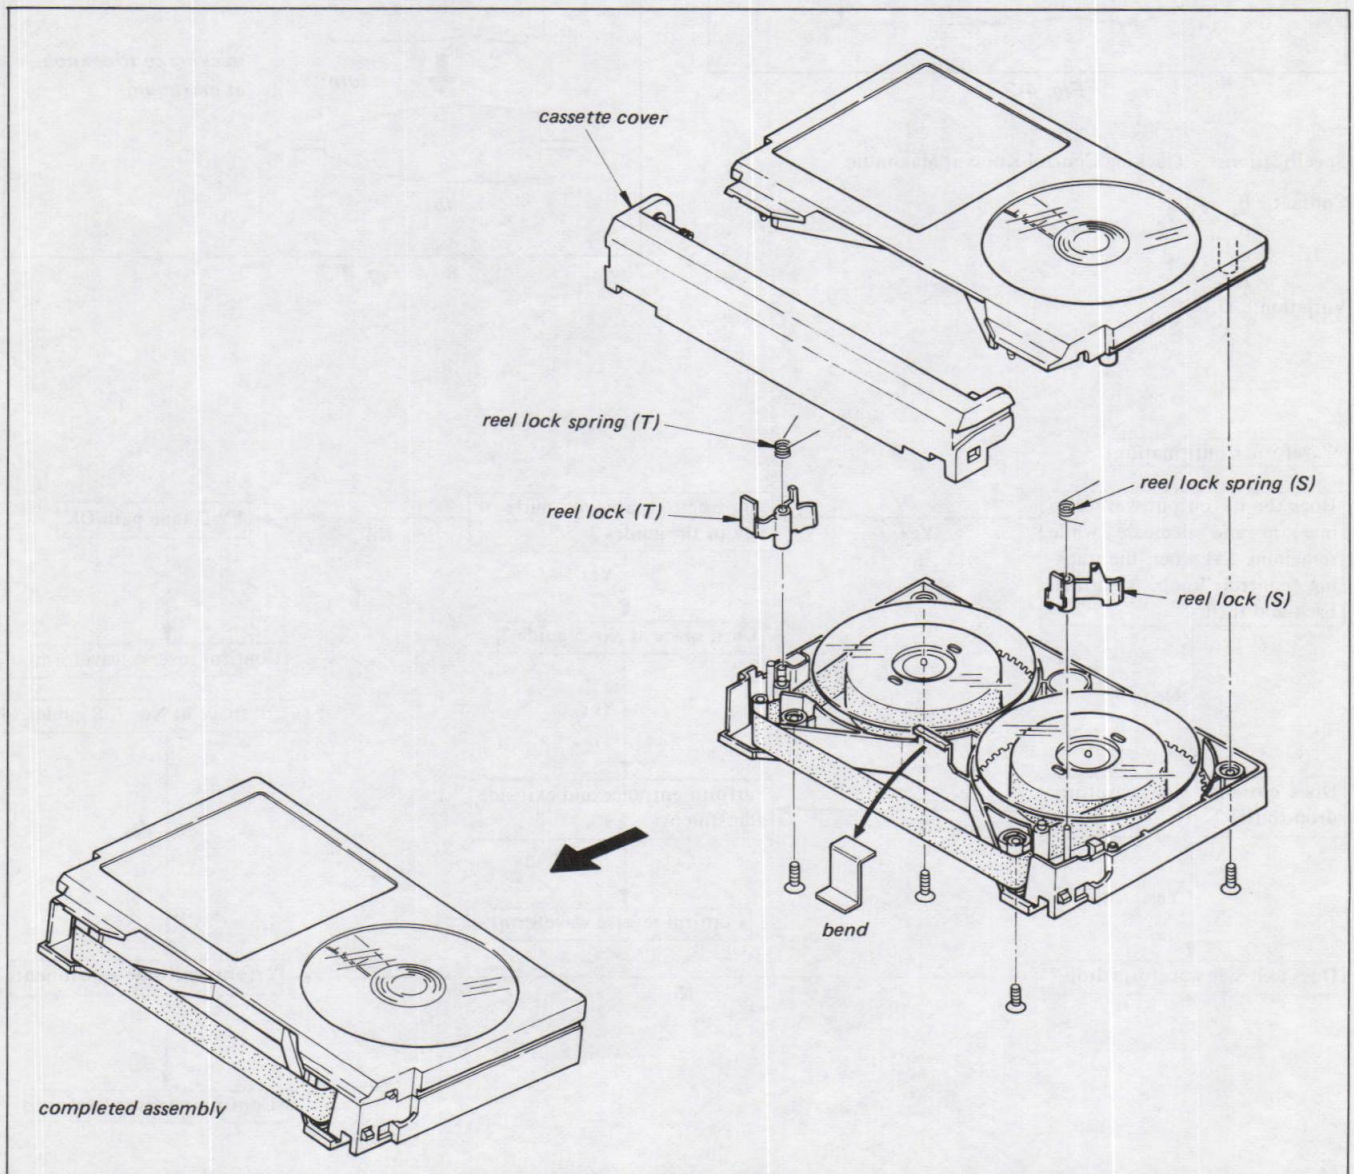

Fig. 4-1.
- 1) Remove the cassette cover of alignment tape KR5-2H as shown in Fig. 4-1.